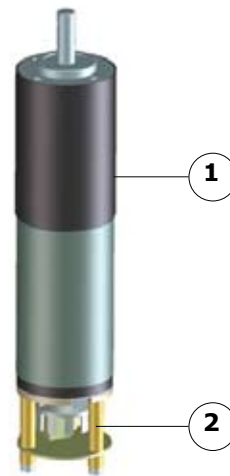

Fig.3.3 - Motors
The motor is made up of a DC reducer motor (Fig.3.3 - 1) delivering a range of welding speeds between 50 and 150 mm/min.
An encoder (Fig.3.3 - 2) attached to the motor informs the Polysoude welding generator of the actual position of the torch and is used to control the welding sequence (control of the sector starts and stops).
- One cover if the head is assembled with a chuck or shell clamp (Fig.3.3 - 3).
- Another cover if the head is assembled with a cooled clamp (Fig.3.3 - 4).